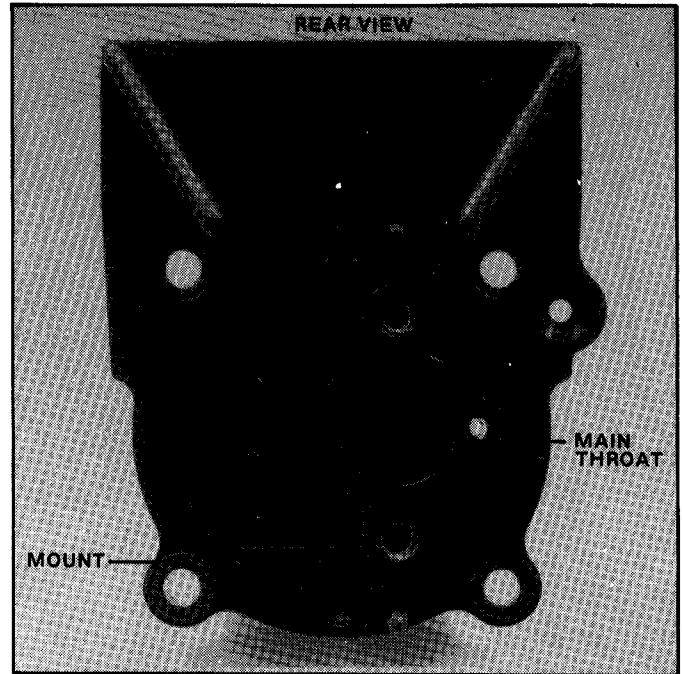

FIGURE 3.1
3.1 With the carburetor removed (Ref. section 2) remove the four screws from the rear of the carburetor mount. These screws have a thread locking material, but they can be used again for re-assembly. See Figure 3.1.